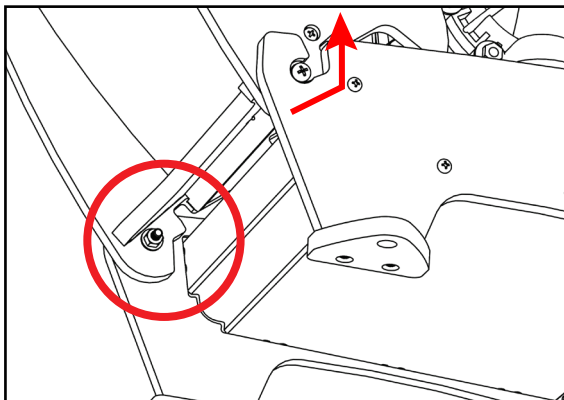

Fig.10.3: Removal position hinge clearance
2. A 15 degree mid-point allows the door to slide off its hinges - this point can be identified by the clearance point shown in [Figure 10.3]